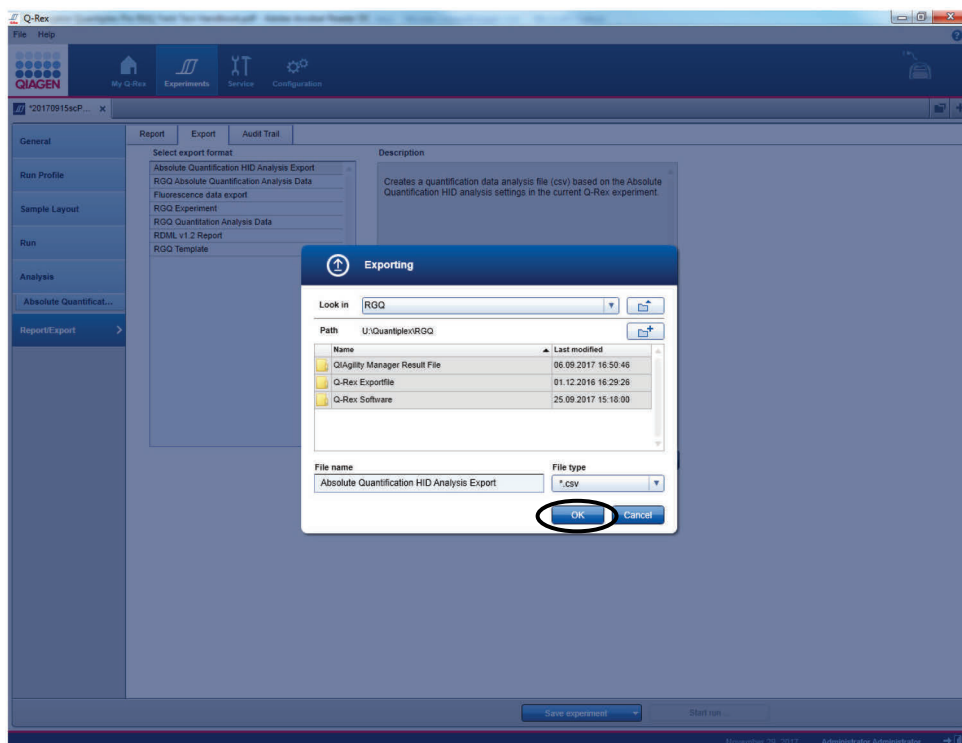

Figure 36. Selecting export directory in Q-Rex.
22. Choose directory for data export and click ok (Figure 36).